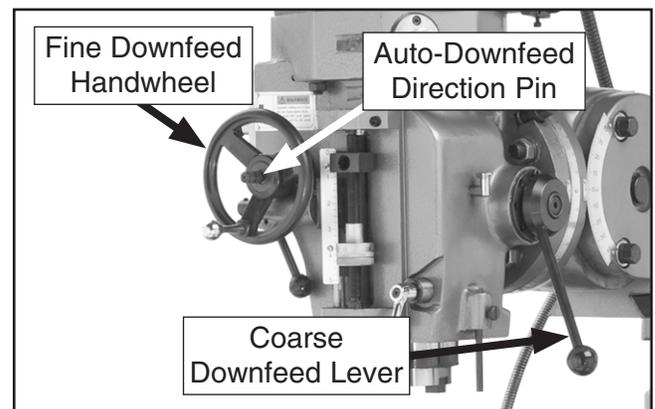

Figure 15. Downfeed controls installed.
11. Install coarse downfeed lever and fine downfeed handwheel, as shown in **Figure 15**.
12. Thread auto-downfeed direction pin into hub of fine downfeed handwheel (see **Figure 15**).